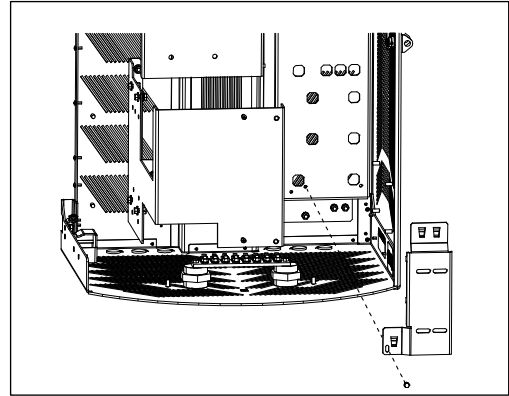

Figure 16 Remove 63xx Bracket
1. Remove the 63xx bracket from the SHRD60 rear panel (Figure 16). Save the mounting screw.
1. Remove the 63xx bracket from the SHRD60 rear panel (Figure 16). Store or discard the bracket per company practice.